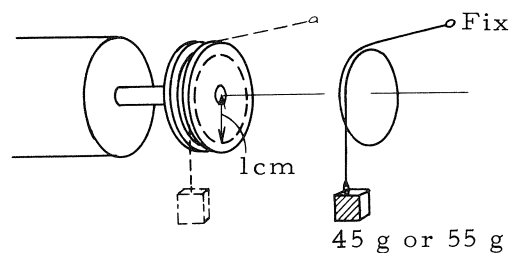

Fig. 1
2. Attach a 45 g weight (when checking the 1st stage of 3000 rpm, a 55 g weight when checking the 2nd stage of 4500 rpm) to the end of a silk thread and wind it around the pulley once. Fix the other end of the thread. (Fig. 1)